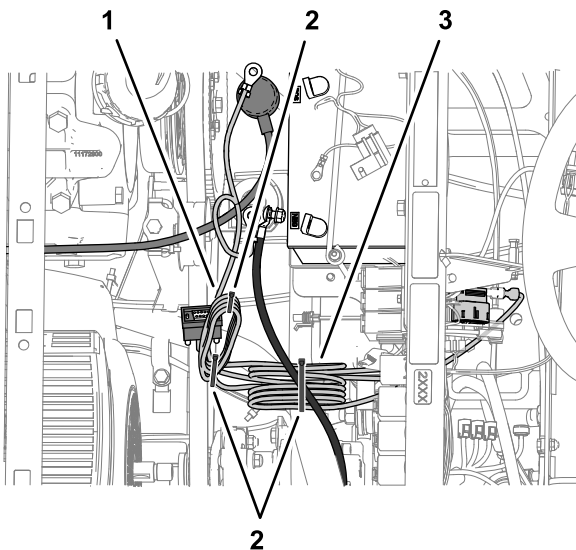

Figure 80
2. Near the fuse block bundle the modem power-harness at the 9-pin connector labeled RS232 and secure the harness with 2 cable ties as shown in Figure 80.
3. Bundle the modem power-harness at the negative battery cable, and secure the bundle to the battery cable with a cable tie as shown in Figure 80.